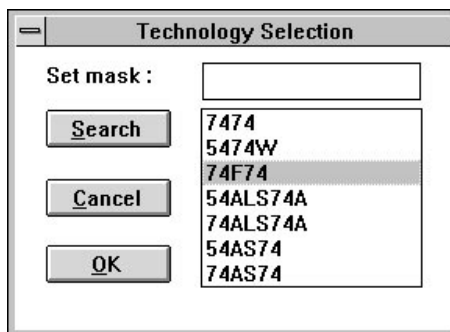

Figure 1-34. Device Replacement Window.
11. A new **Technology Selection** window appears (Figure 1-34) and lists all replacement parts for the 74LS74A. Select a faster part, e.g. 74F74.